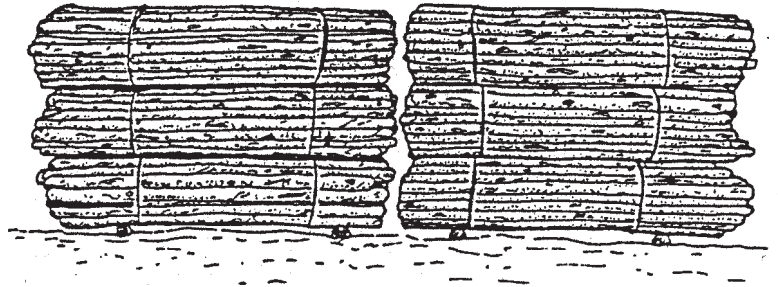

Fig. 5-23
1. If your log bundles are not tapered, stack the bundles directly on top of each other in vertical piles as shown in Fig. 5-23.